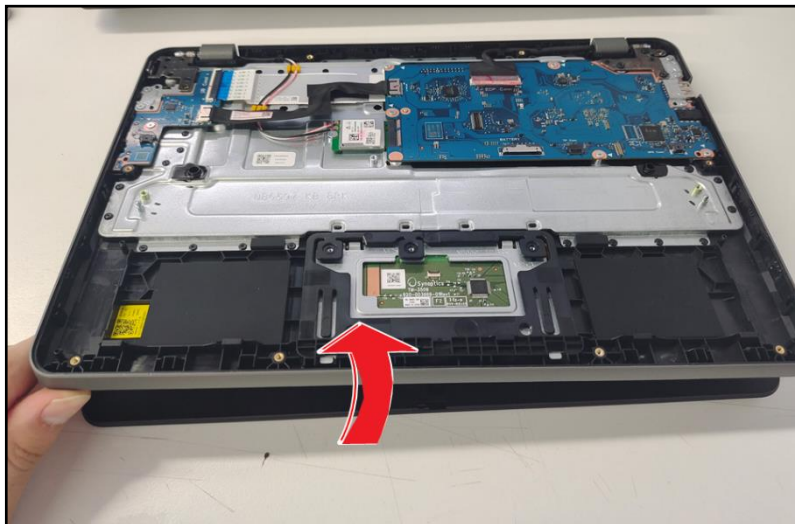

Figure 3-22. USB Board Removal
2. Lift the top assembly until it is fully open (Figure 3-22).